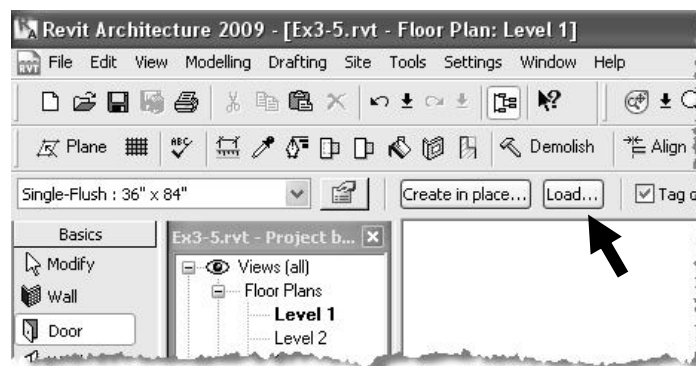

Figure 3-5.1 Load from Library
2. With the *Door* tool selected, select the **Load...** button on the *Options Bar* (Figure 3-5.1).